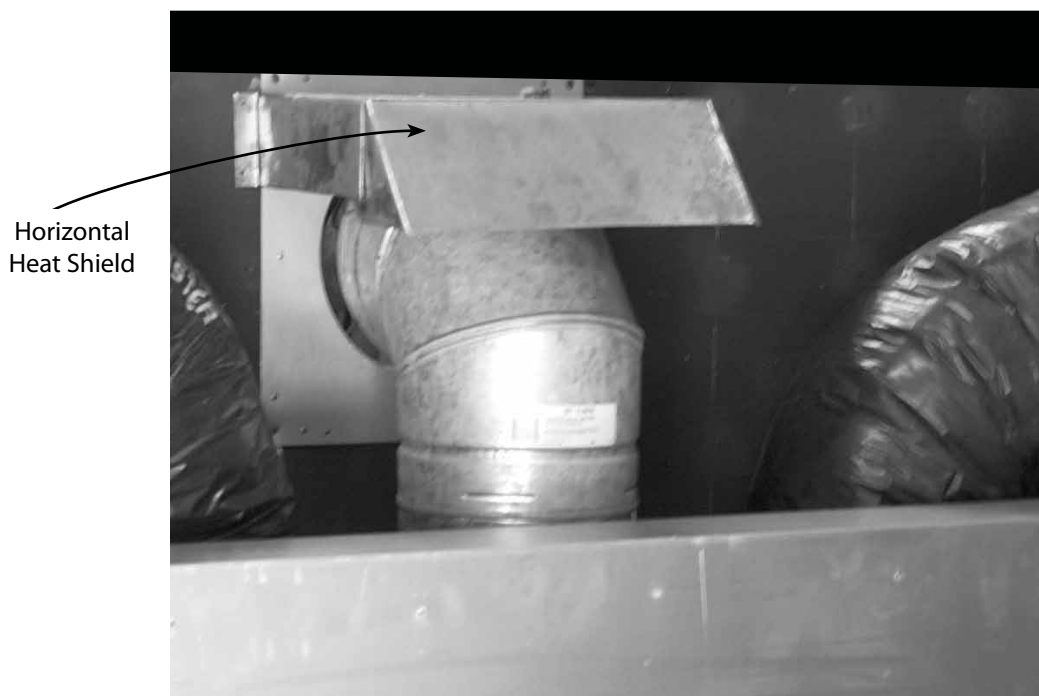

Figure 25 - Horizontal Heat Shield
- The first 90° elbow must have the Horizontal Heat Shield either mounted to the top of the elbow with the enclosed Heat Shield Mounting Bracket or mounted on the wall as shown in *Figure 25*.